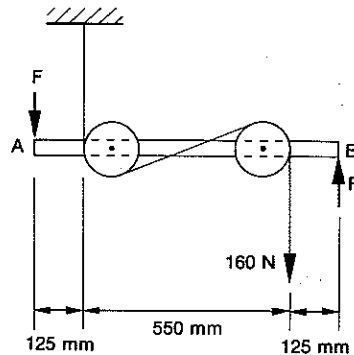

Fig. 5.19
- 5.16 Determine the force F at each end of the bar AB (Fig. 5.19) required to maintain equilibrium, if the force in the string which is passed around the pulleys is 160 N .